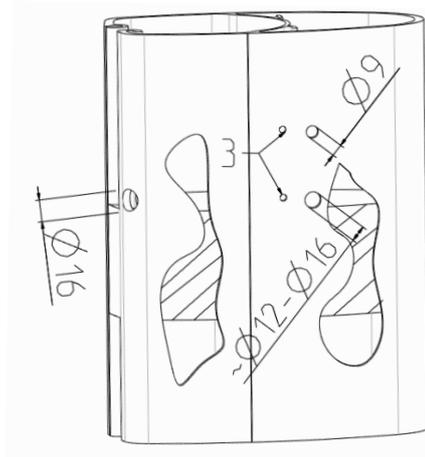

Fig. 3.e
- 3.6 Also drill a new drainage hole in the sail compartment, approximately 25 mm centre-to-centre above the old drainage hole (see Figure 3.f). Finish by deburring the hole.